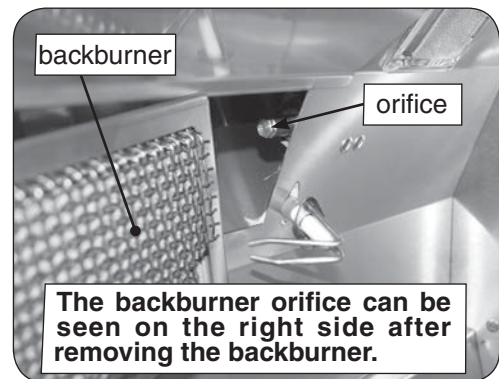

Fig. 30-4 Remove backburner
3. Carefully pull the left end of the backburner forward until the burner can be moved to the left pulling it free from the orifice located on the right side (see Fig. 30-4).